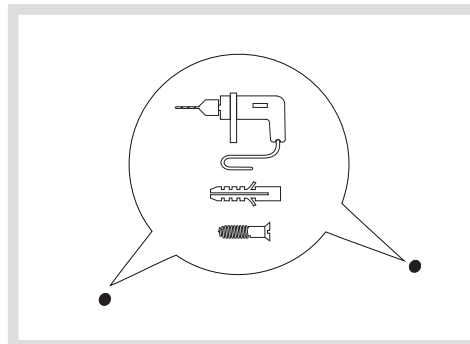

Figure 7: Drill the fixing holes
- Drill at the drawn-on markings and push anchors into the drillholes. (Figure 7).